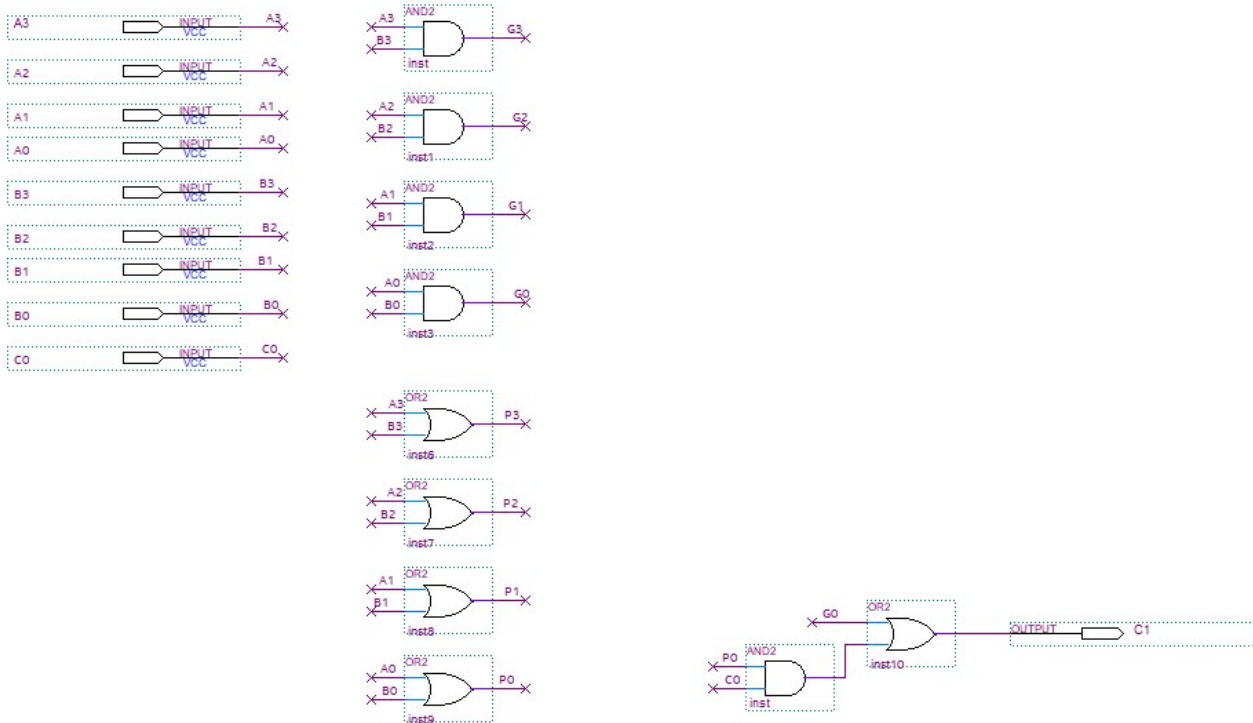

Figure 1: Name Association Used to Speed Creation of the CLC4 circuit
- c. Large circuits with many wires are difficult to draw neatly. Most CAD tools provide an alternative called **name association**. In name association, any signal with the same name is connected. Signals can be named by highlighting them and typing the name. **Figure 1** shows the start of the CLC₄ component with name association used as the wiring technique.